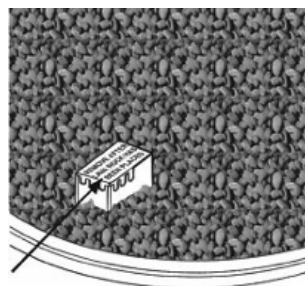

Figure 13
13. Remove the cardboard cover from the ignition well as shown in Figure 13. Remove any lava rock or fire ice on top of ignition well.